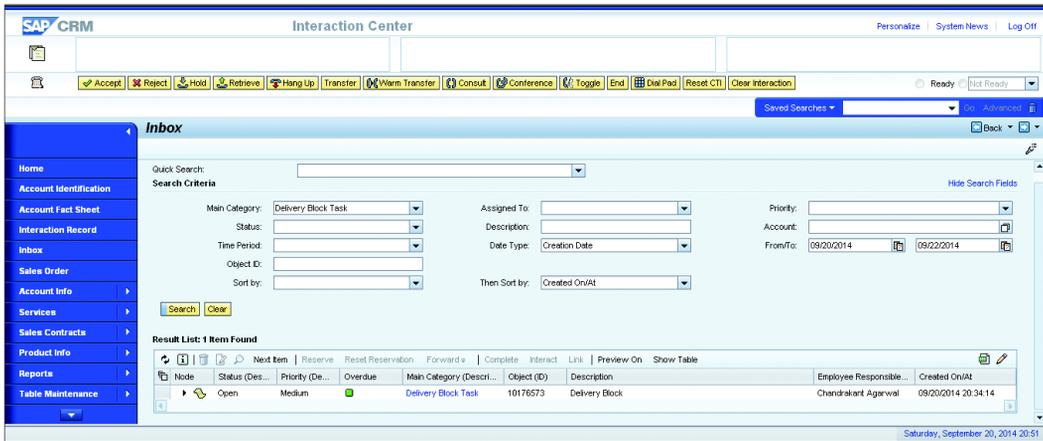

Figure 9.33 Agent Inbox Showing the Delivery Block Task
3. Figure 9.33 shows the DELIVERY BLOCK TASK created and assigned to the sales order. The task is assigned to the skill group; the skill group has multiple employees assigned to it as well. Any of the employees can yank the task on their name and call the customer to get the specific information on the shipping condition.